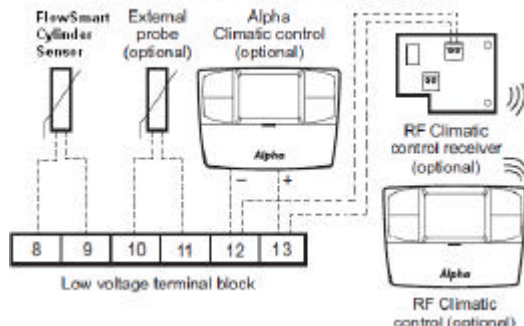

Fig 8
7. Connect the wires for the diverter valve and cylinder sensor to the main boiler panel as shown in Fig 8